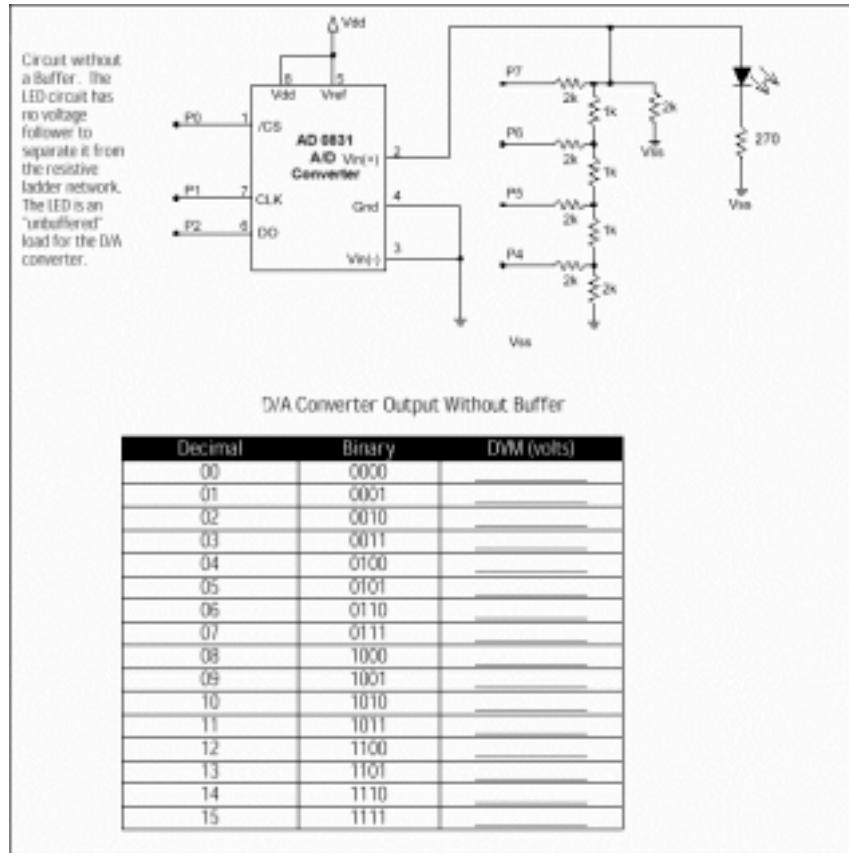
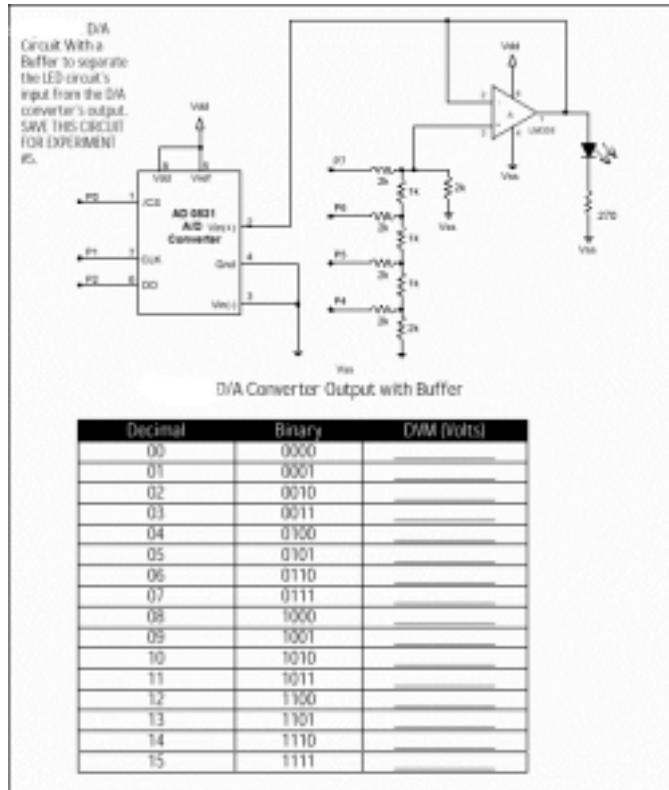

Figure 4: R-2R ladder without Voltage Follower
Figure 5: R-2R ladder with Voltage Follower
1. Create an R-2R ladder network DAC (as discussed in class) and interface its output to a LED and the ADC as shown in the Figure 4 below.
2. Note: Figure 4 depicts the implementation of a 4-bit R-2R ladder network where by outputting a series of LOWs (0) and HIGHs (1) on the output pins P4-P7 one can create the appropriate output voltage levels (Resolution = 4 bits). The LED serves as a load on the DAC circuitry while the ADC (set up in the previous stage) serves to measure the output voltage levels. In your system, you will need to create the R-2R ladder by using resistors that are available in your Stamp Works kit. Set up the system so that pressing Button D3 increments the output of the DAC while Button D4 decrements the output of the DAC. Create a table and note down the values of the output voltage from this DAC for the range of 8-bit digital output values (from \$00 to \$FF in increments of 16).
3. Augment the setup in Step 1 by adding the voltage follower circuit as shown in Figure 4 using one of the channels of the LM358 shown in Figure 5. Now create a similar calibration table to correlate the output digital levels to the actual values measured by the ADC. (**DEMO 3**)